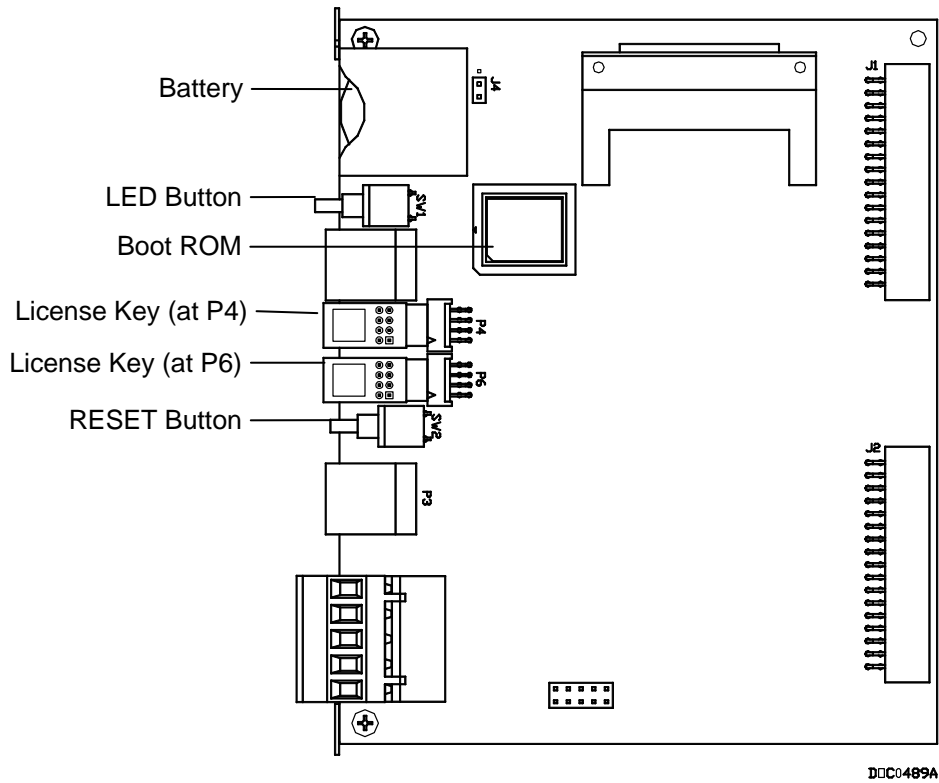

Figure 2-7. CPU Connectors
6. Place the license key in the appropriate terminal slot (P4 or P6) in the CPU (refer to Figure 2-7).
6. Remove the license key from the appropriate terminal slot (P4 or P6) in the CPU (refer to Figure 2-7).